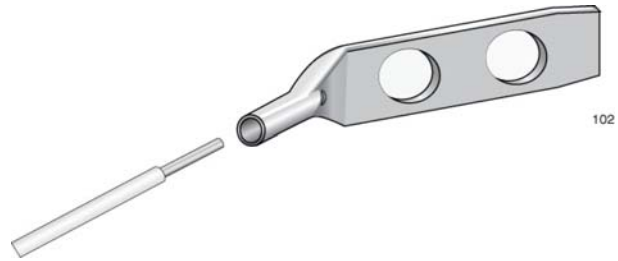

Figure 48. Attaching the Grounding Wire to the Grounding Lug
3. Insert one end of the grounding wire into the grounding lug, as shown in Figure 48, and use a crimping tool to secure the wire to the grounding lug.